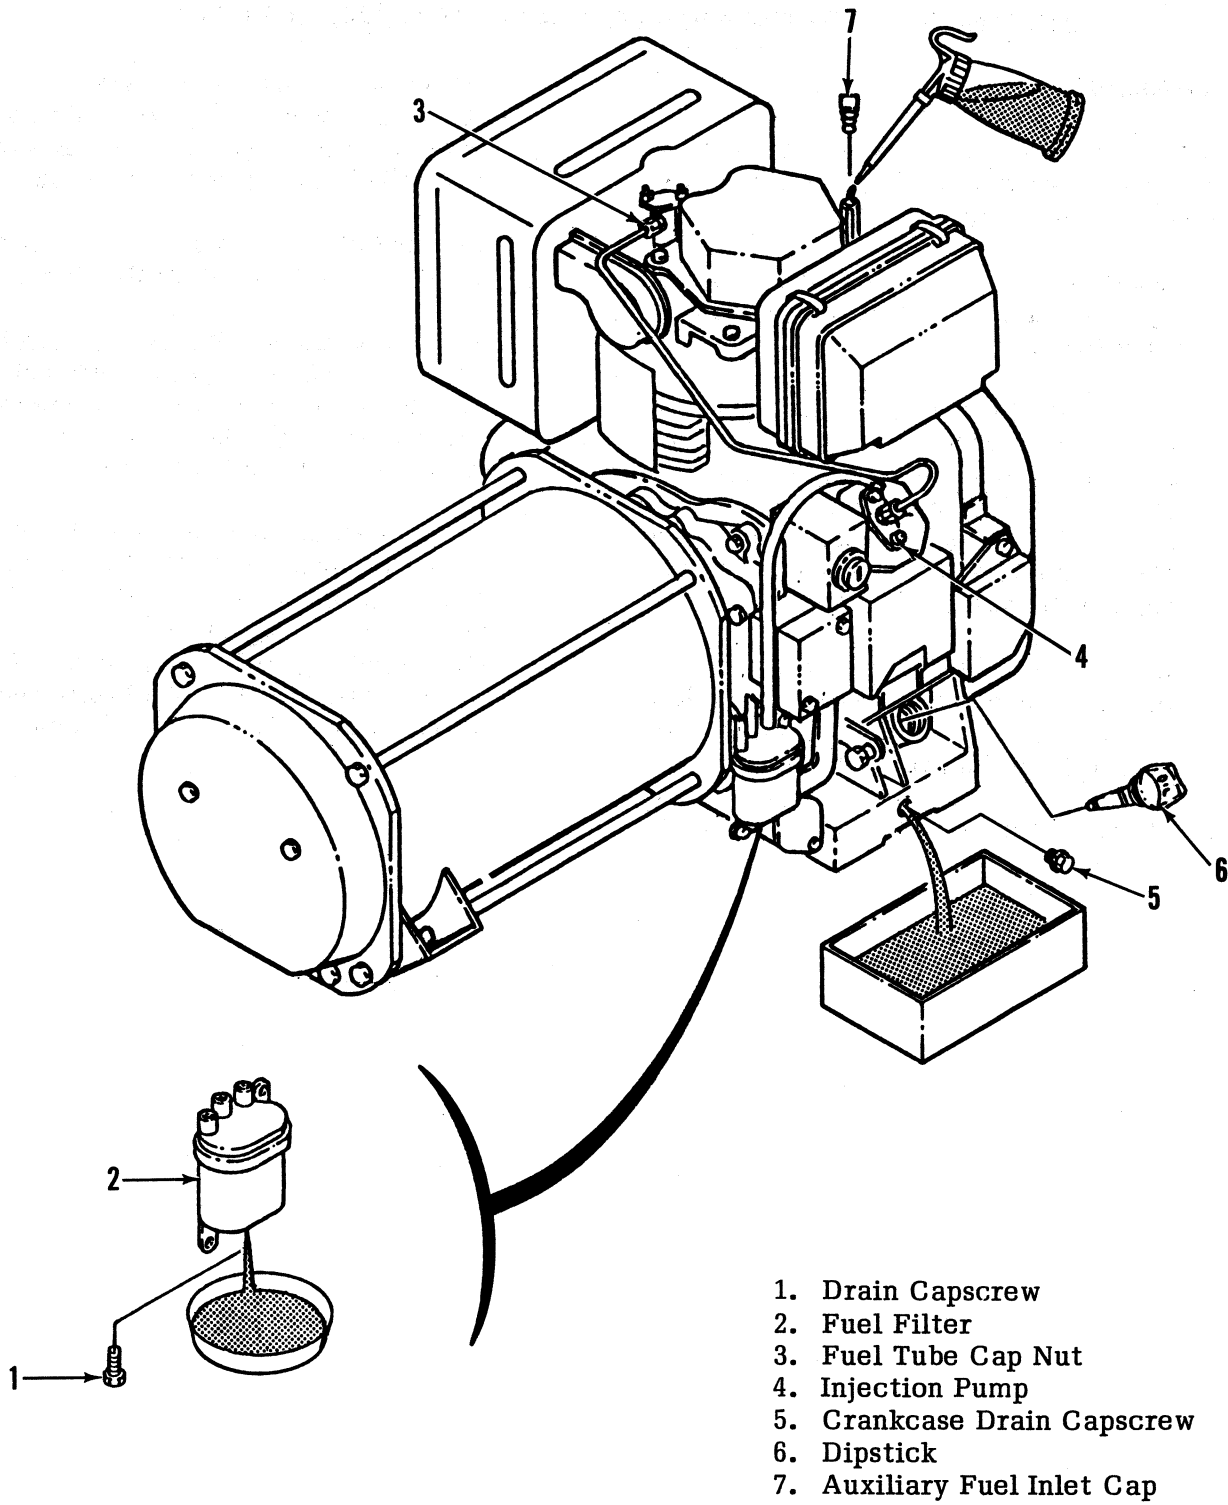

Figure 3-2. Preparing for Storage
- b. Refer to Figure 3-2 and provide a suitable container to catch drainings then remove the drain capscrew (1) from the bottom of the fuel filter (2) to drain all fuel from the fuel system. Once drained replace the drain capscrew.
- c. Loosen the fuel tube cap nut (3) on the injector nozzle to allow fuel to escape injection pump (4), then tighten fuel tube cap nut.
- d. While engine is still warm, remove crankcase drain capscrew (5) to drain crankcase oil. Once drained, replace drain capscrew (5), remove dipstick (6) and fill with fresh oil.
- g. If the unit is to remain idle for 30 days or more, remove the auxiliary fuel inlet cap (7) on top of the engine and pour in 4cc of SAE 30 motor oil. Replace priming cap then, crank engine three revolutions to distribute oil in cylinder. Do not start engine.
- b. Provide a suitable container then, drain the fuel filter (2, Figure 3-2) using drain capscrew to remove condensation.